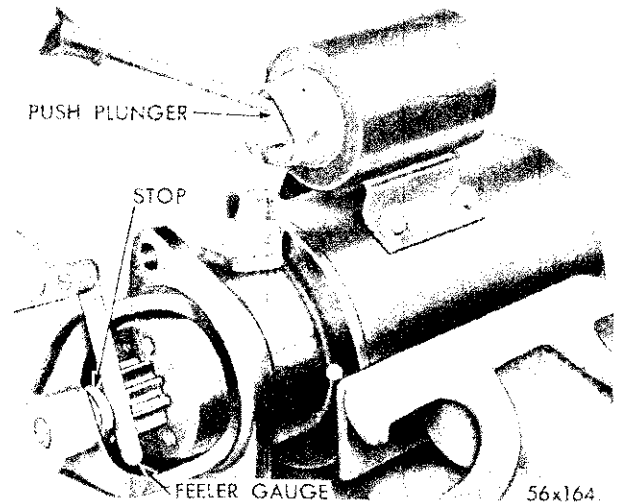

Fig. 9—Adjusting Starter Drive Pinion Clearance
(1) Place the starter assembly in a vise equipped with soft jaws and tighten the vise sufficiently to hold the starter.
(2) Push in on the solenoid plunger link (Fig. 9) (NOT THE FORK LEVER) until the plunger bottoms.
(3) Measure the clearance between the end of the pinion and the pin stop with the plunger seated and the pinion pushed toward the commutator end. The clearance should be  $\frac{3}{32}$  inch, plus  $\frac{1}{32}$  inch or minus  $\frac{1}{64}$  inch. Adjust for proper clearance by screwing the link in or out of plunger as required.
(4) Bend the cotter key and test the starter operation under a free-running test (Paragraph 18(a)).